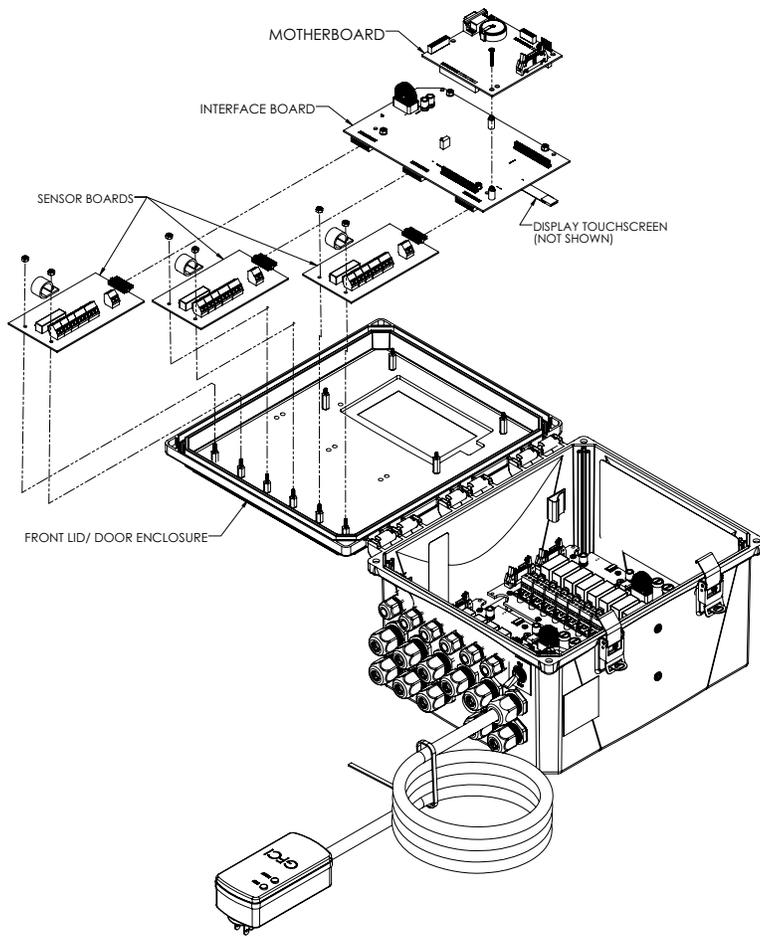

Figure 1. AK600 Controller Enclosure (Door Open)
2. Open the front lid/door enclosure of the AK600 system (See Figure 1).
1. Attach the ribbon cable of the Display Touchscreen board to the 4-pin terminal of the AK200 Interface board. Carefully align the 20-pin and 2-pin terminal headers of the Display Touchscreen with the terminals of the AK200 Interface board, and then press boards into place. Attach the four nuts (Item 5), four spacers (Figure 1, item 2), and four screws (Figure 1, item 3) to attach the AK200 Interface board with the Display Touchscreen board (See Figure 1). Securely fasten.